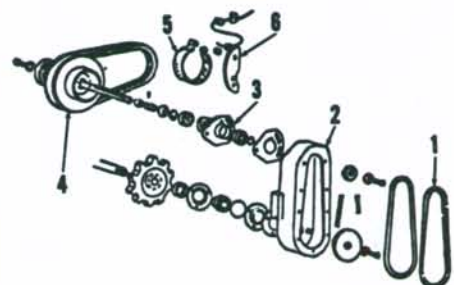

Fig. 3—Exploded view of chain case and associated parts used in 1969.
case inspection cover. Adjust the chain on 1969 models by loosening the stud nuts retaining upper shaft housing (3—Fig. 3) to chain case (2) and moving shaft housing in the slotted holes.